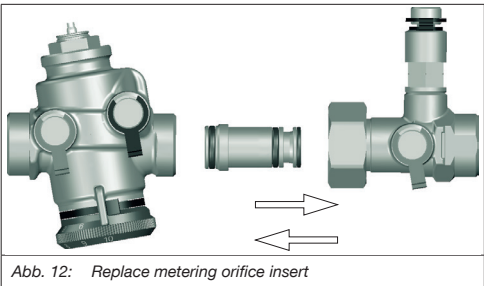

Abb. 12: Replace metering orifice insert
- Remove the metering orifice insert if fitted (see Abb. 12).
- Insert the new metering orifice insert (see Abb. 12).